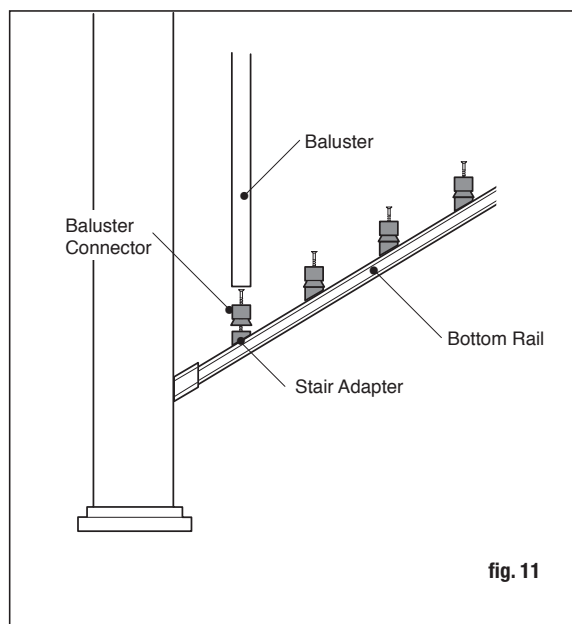

fig. 11
Step 7: *Note: This step is for installing the Deckorators square composite balusters. To install alternative Deckorators styles, please refer to the installation instructions provided with the balusters.* Attach the baluster connectors with stair adapters (both sold separately) to the bottom rail through the pre-drilled holes using the screws provided (fig. 11).